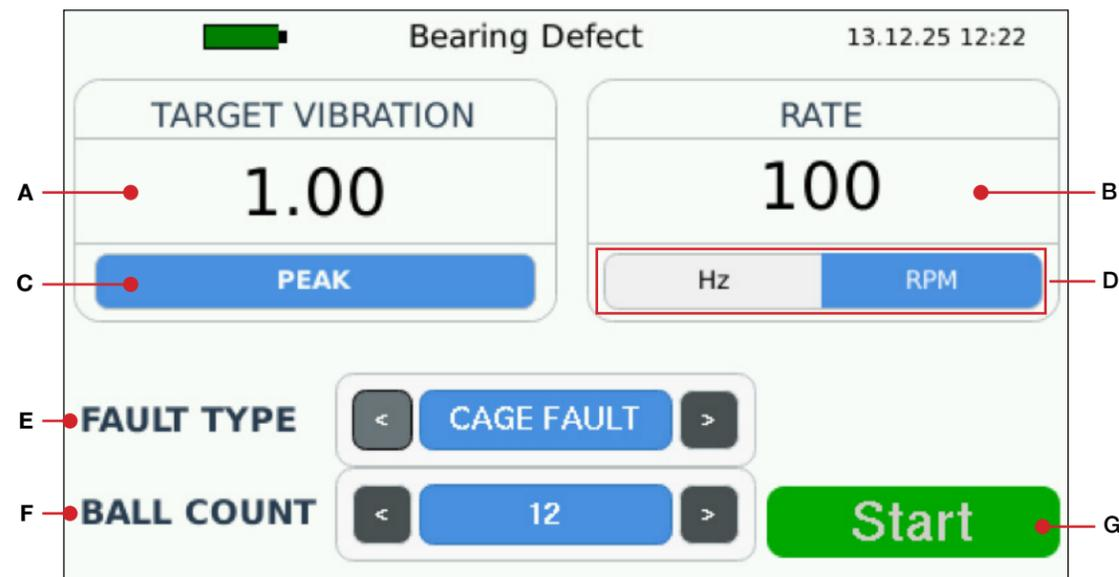

Figure 15
- From the main menu, select **Bearing Fault** to open the Bearing Defect screen (*Figure 15*).